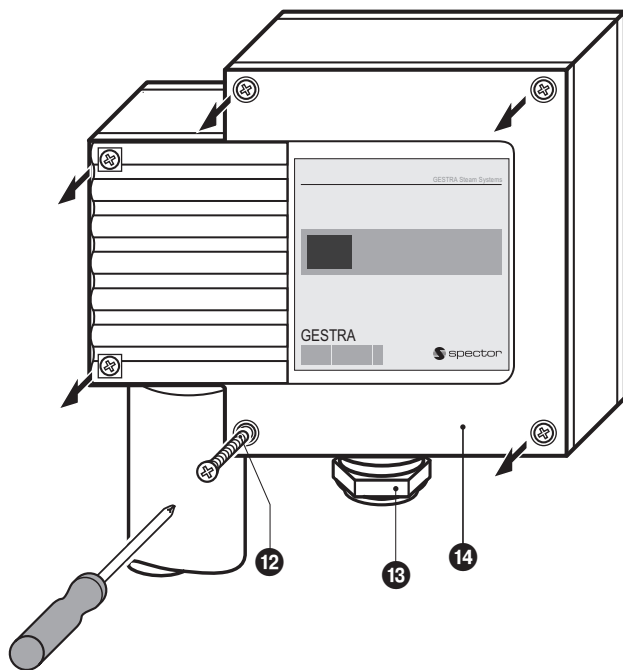

Fig. 14
1. Loosen screws **12** and remove housing cover **14**, **Fig. 14** The arrow on the name plate points towards this cover.
1. Loosen screws 12 and remove housing cover 14. **Fig. 14, 15**